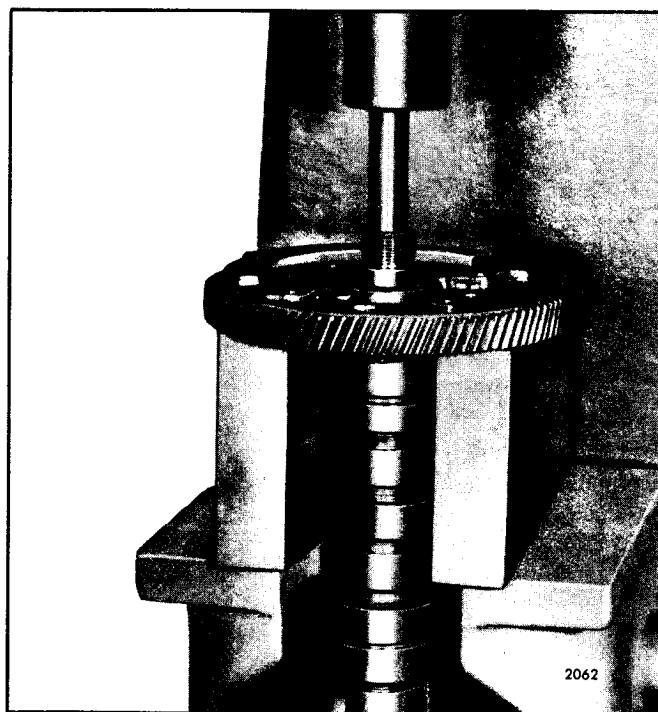

Fig. 1 - Removing Camshaft Gear
2. Place the camshaft and gear assembly in an arbor press with the gear suitably supported (Fig. 1).